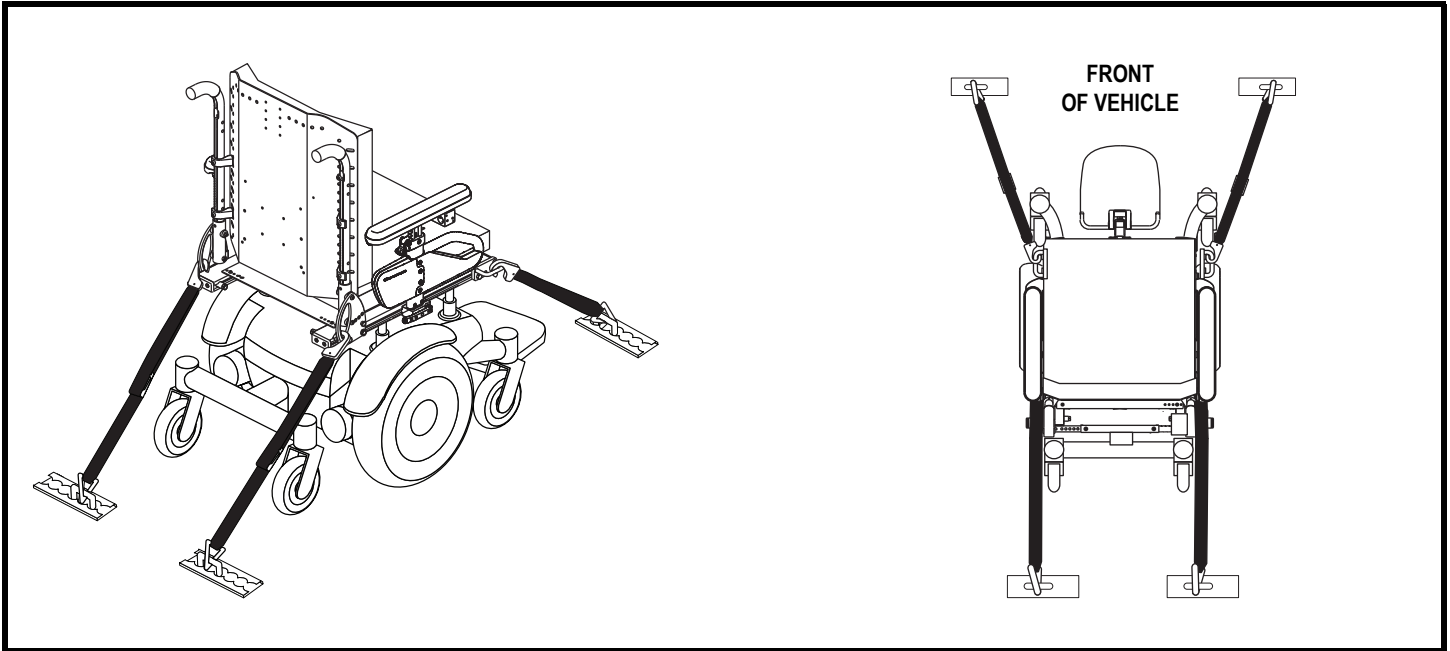

Figure 14. Unoccupied Transit System Securement Points
- Position the anchor points for the rear tie-down straps directly behind the rear securement points on the power chair. The front tie-down straps should be anchored to floor points that are spaced wider than the power chair to provide increased stability. **See figure 14.**